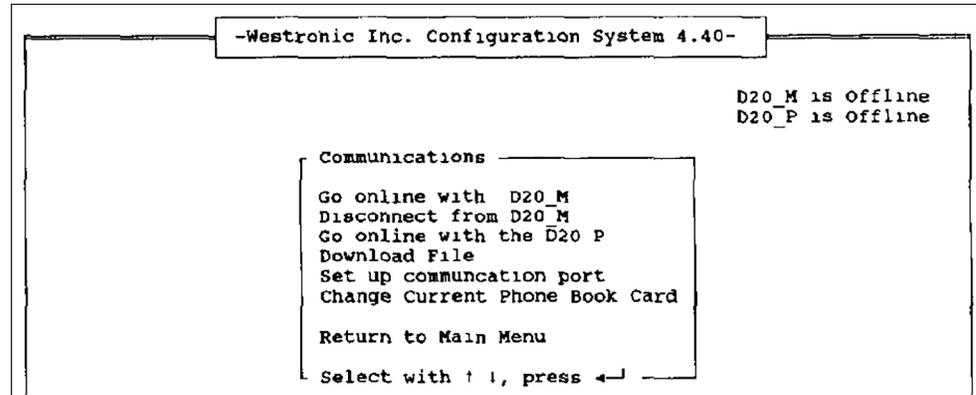

Figure 32. The *Communications* screen.
STEP 27. Using the arrow keys, select the **Disconnect from D20_M** option and press the <ENTER> key. The *Communications* screen will open. See Figure 32 on page 22.